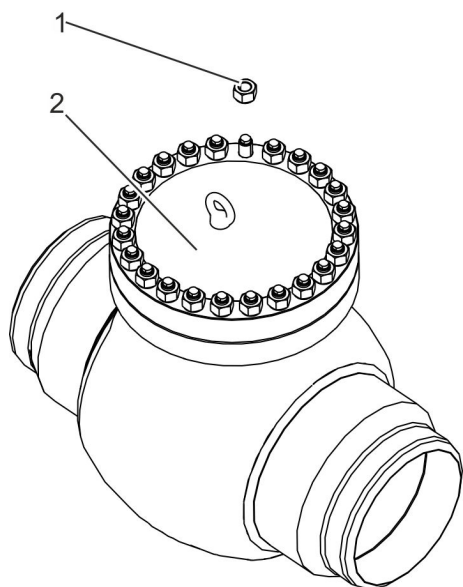

Fig. 23: Bolting on the body cover
14. ➤ Loosely bolt the body cover (Fig. 23/2) with the nuts (Fig. 23/1) on to the stud bolts of the body.
Tighten the nuts (Fig. 23/1) to the prescribed tightening torque crosswise.